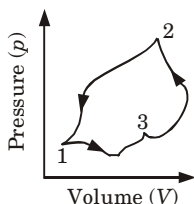

Fig. 1.7.1.
3. Fig. 1.7.1, shows such a cycle in which a system commencing at condition '1' changes in pressure and volume through a path 1-3-2 and returns to its initial condition '1'.